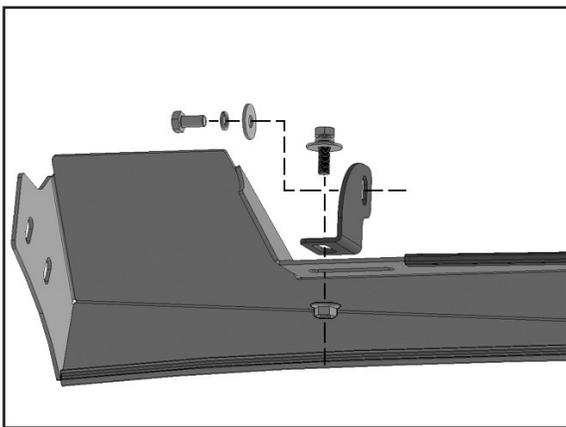

FIGURE 27
- a. Attach the driver/left and passenger/right LED "L" Brackets to the slots in the Wind Fairing first with the included (2) 8mm Combo Bolts and (2) 8mm Flange Nuts, **(Figure 27)**.